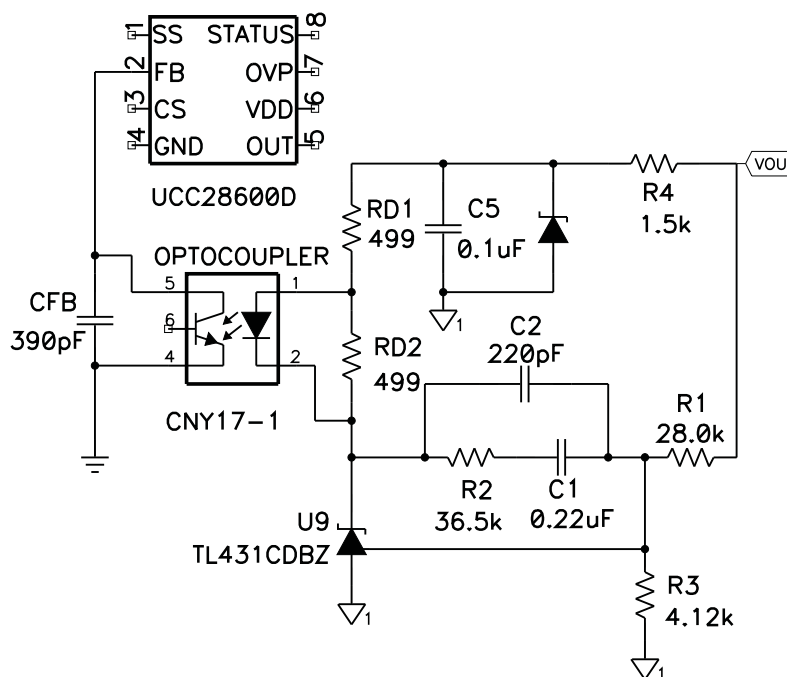

Figure 8. Typical Loop Compensation for the UCC28600
The feedback network uses an opto-coupler and shunt regulator for closed loop control. The collector of the opto-coupler is tied directly to the feedback (FB) pin of the UCC28600. The FB pin has an internal 20-k Ω pull-up resistor to the internal 5-V reference of the device. Maximum duty cycle is achieved when FB is high and zero duty cycle occurs when FB is low. The voltage on FB plays a key role in determining what mode the converter is in. Placing a capacitor on FB provides a delay time for over load protection, as shown in Figure 8. Using a 390-pF capacitor gave adequate delay without adversely effecting performance. Values much larger than this should be avoided.
As shown in Figure 8, the UCC28600 uses a Type II compensation scheme that would be applicable to most discontinuous mode flyback converters. The TL431 shunt regulator is biased off of the output voltage. Resistor values for R4, RD1, and RD2 can be massaged in such a way as to run at minimal power levels. This is helpful when designing a circuit that must meet stringent no-load input power requirements; even during open circuit operation, the TL431 and opto-coupler must be biased and will consume power.